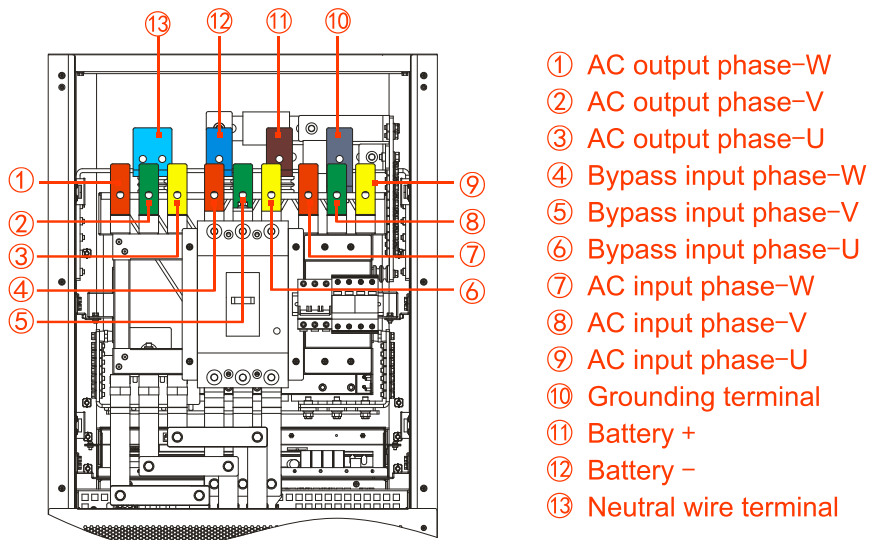

Figure3-26 Wiring terminals diagram of PS-POU 160kW, PS-POU 200kW (back view)
Step 2 Lead the input cables, output cables and battery cables go through the top wiring hole, and connect the cables according to Figure3-26 respectively, then fasten the bolts.